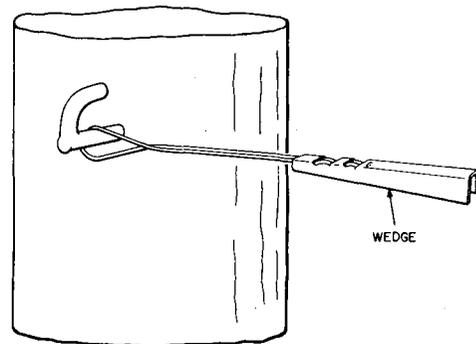

Fig. 1 — Wire Loop of Wedge Hook
2.01 Place the wire loop of the wedge on the drive hook as indicated in Fig. 1. Where the attachment is a knob, spread the wire loop sufficiently to permit its slipping over the knob and into the groove. Then pull on the wire loop and at the same time pinch the two sides together until the loop conforms to the diameter of the groove.
**3.01** Place the wire loop on the hook as shown in Fig. 1.